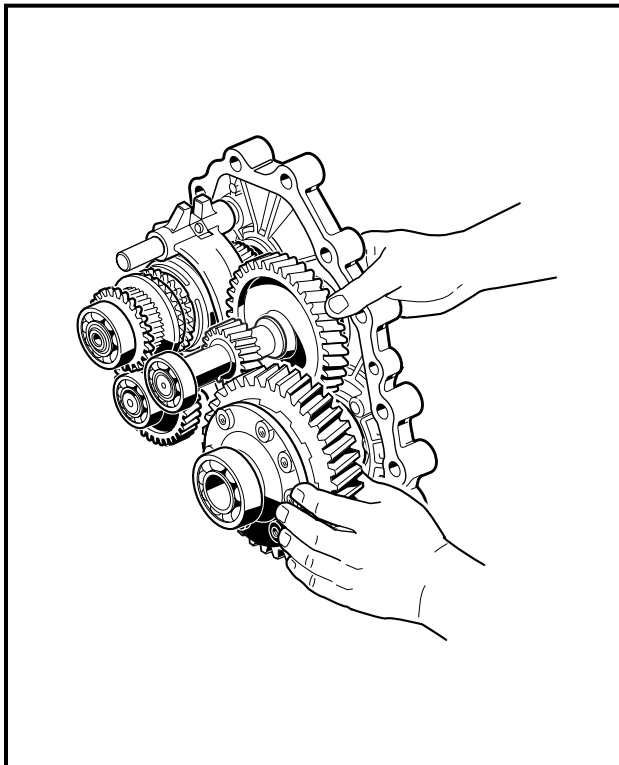

Figure 5-4 Loosen Gears
5. Turn the case section containing the gearing on edge (**Figure 5-4, Page 5-4**). Hold it in this position and gently rock all the gear assemblies to slightly loosen them in their seating. **See following CAUTION.**